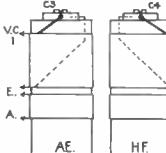
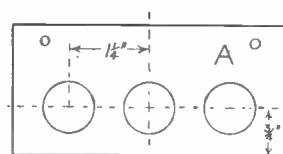

Fig. 5
Fig. 4—Pipette holders
As can be seen from Fig. 5, in both coils, one end of the trimmer is joined to the top of the main winding, while the other end of the trimmer is joined to the bottom of the main winding. Fig. 5 makes clear the connections for each coil. It will be seen the aerial coil is above the chassis, while the H.F. coil is below.
lured by piece 10, the beak-head, cut as in Fig. 4. We now cut one bulwark or upper side piece (11) and glue it in place on the hull, followed by one gallery side and the gallery end cut as in Fig. 5. When one each of the fore, main and mizzen channels are cut and glued in position, the little hull is complete.
For the pipette holders (Fig. 4) two pieces of wood  $4\frac{1}{2}$  ins. by 2ins. will be needed. The broken lines make centring easy. In the upper holder (A) the holes are sawn or drilled  $\frac{1}{8}$  in. wide. This section is, of course, simply screwed into the cut-out on the back board. The